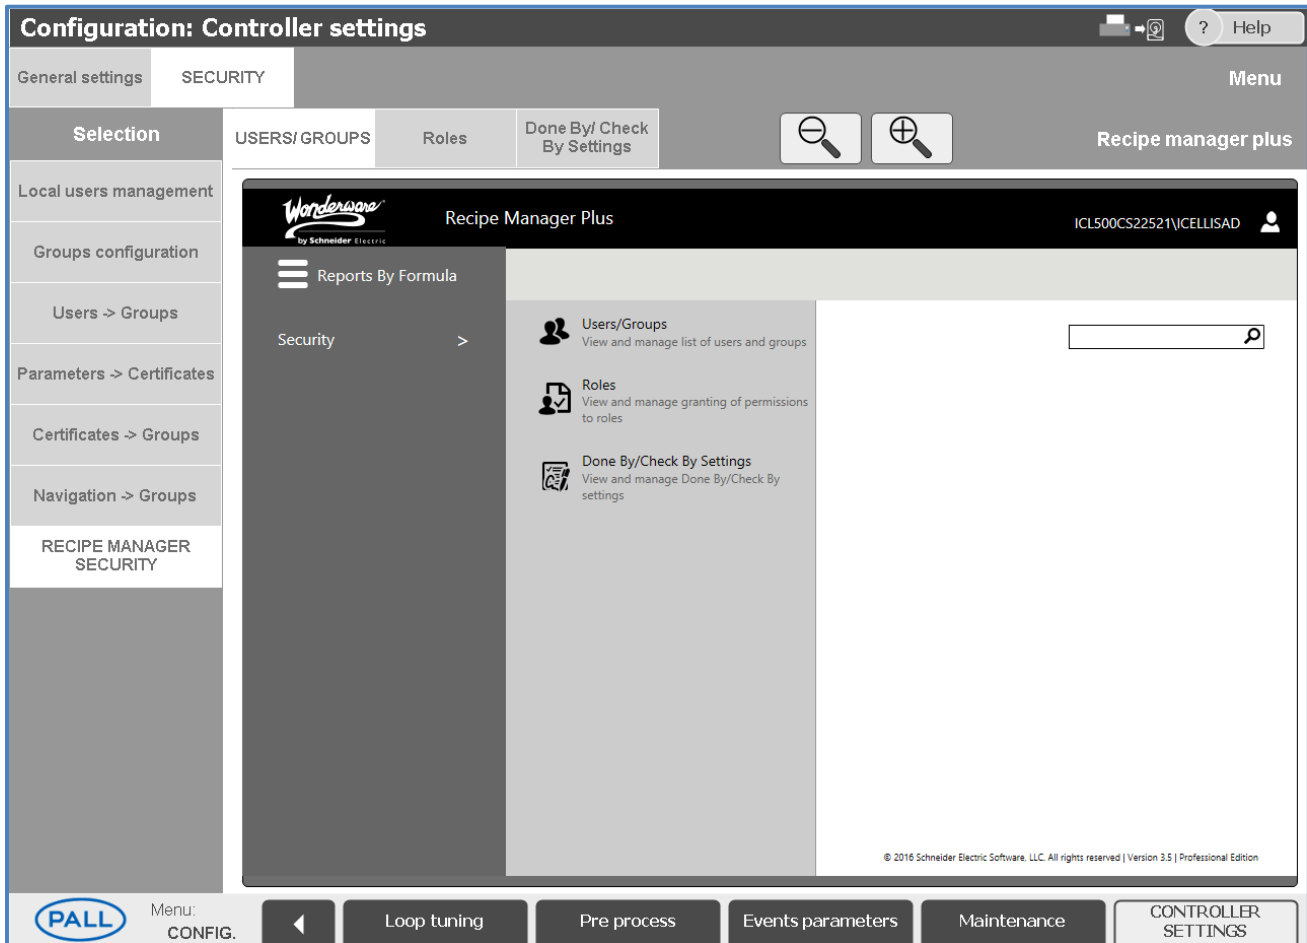

Figure 90: Certificates Groups page, allowing parameters access level settings
Recipe Manager Plus is a separated software of Wonderware, that is integrated in the HMI of the iCELLis 500+ bioreactor software. Therefore, the access to Recipe Manager (RM) modules (Recipe Creation, Validation and Execution) is managed separately from other access levels. To configure the RM's access levels navigate to HOME: CONFIGURATION: CONTROL SYSTEM SETTINGS: SECURITY: RECIPE MANAGER SECURITY (Figure 90).